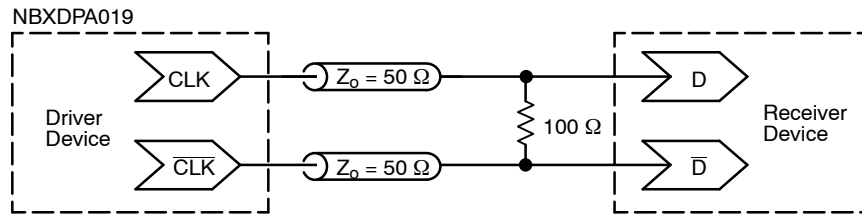

Figure 5. Typical Termination for Output Driver and Device Evaluation
- Measurement taken with outputs terminated with 100 ohm across differential pair. See Figure 5.